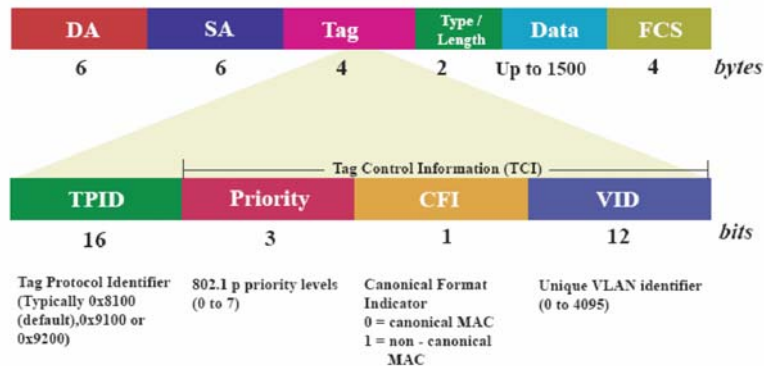

Figure 17. VLAN tag field
**Tag-Based VLAN Overview.** Figure 17 shows the breakdown of the VLAN tag field.